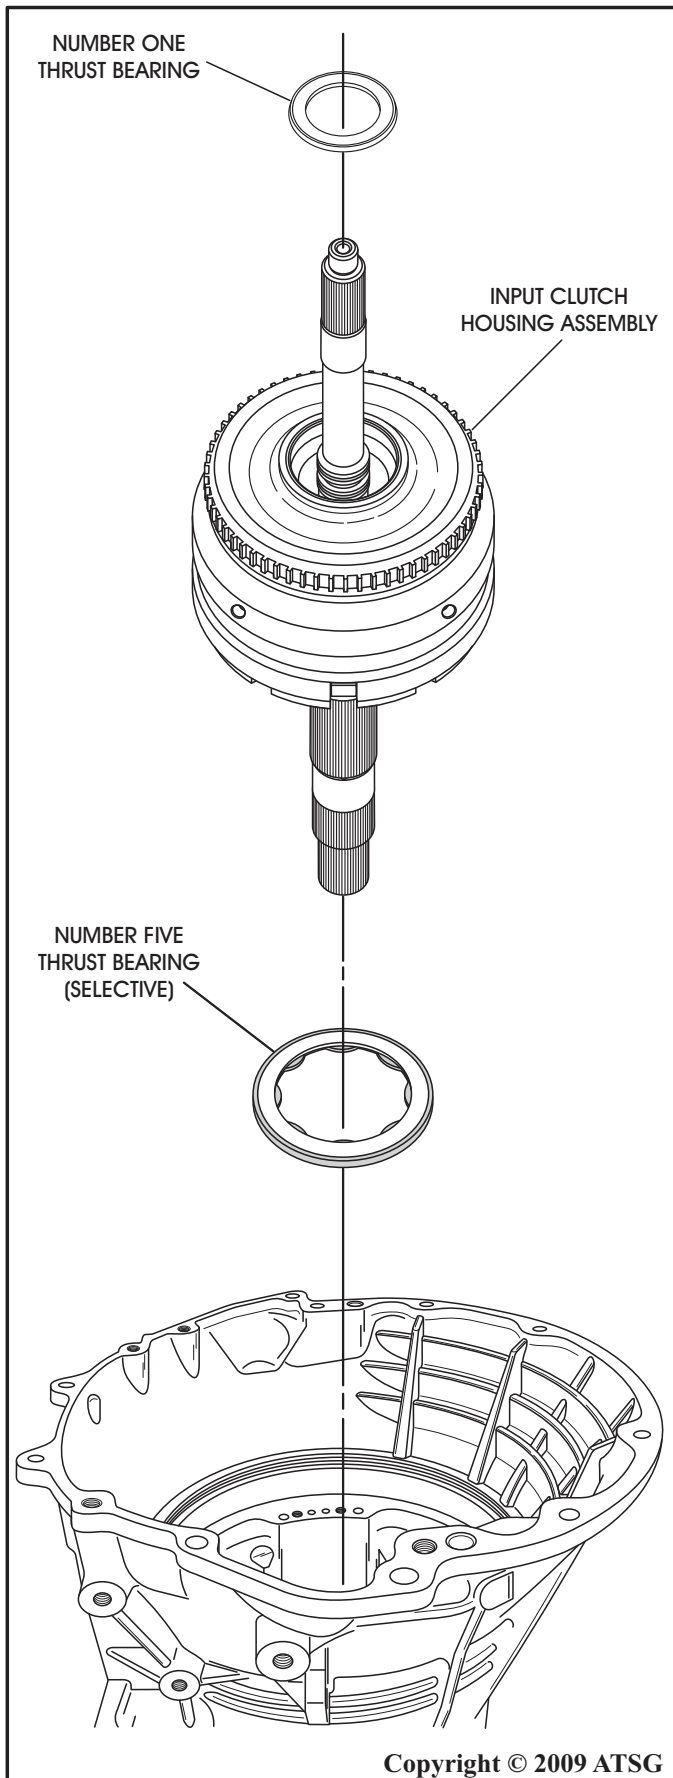

Figure 37
24. Remove the input clutch housing assembly by lifting straight up as shown in Figure 37.
25. Remove the number one thrust bearing from inside the input housing as shown in Figure 37.
26. Remove the number 5 **selective** thrust bearing from back side of the input housing, or from the 2-4 support in transmission (See Figure 37).